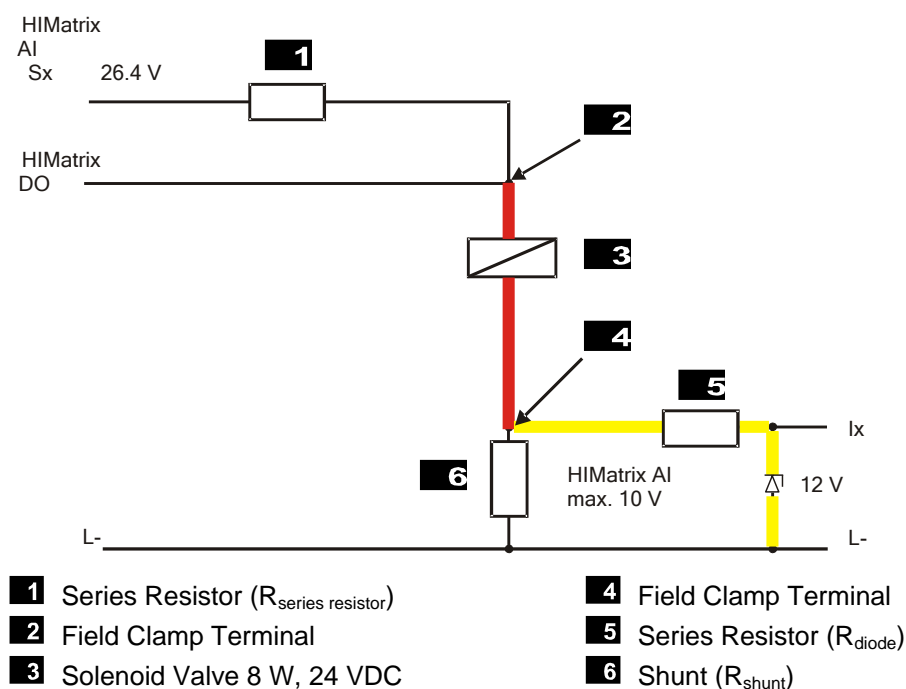

Figure 1: Circuitry for Line Monitoring
Figure 1 shows how the lines connecting a digital output (DO) to an actuator (e.g., solenoid valve) can be monitored for open-circuits and short-circuits.
## Illustration of Figure 1 and Table 7
An open-circuit within the red-colored area (see Figure 1) can be monitored through the voltage drop on the shunt  $R_{\text{shunt}}$ , i.e., the input value of AI, see Table 7.